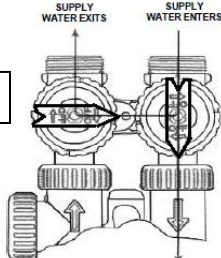

Figure 4 - Diagnostic
3. **Diagnostic Position:** The inlet handle points toward the control valve and the outlet handle points to the center of bypass valve. Untreated supply water is allowed to flow to the system and to the building, while not allowing water to exit from the system to the building (**Fig. 4**). This allows the service technician to draw brine and perform other tests without the test water going to the building.